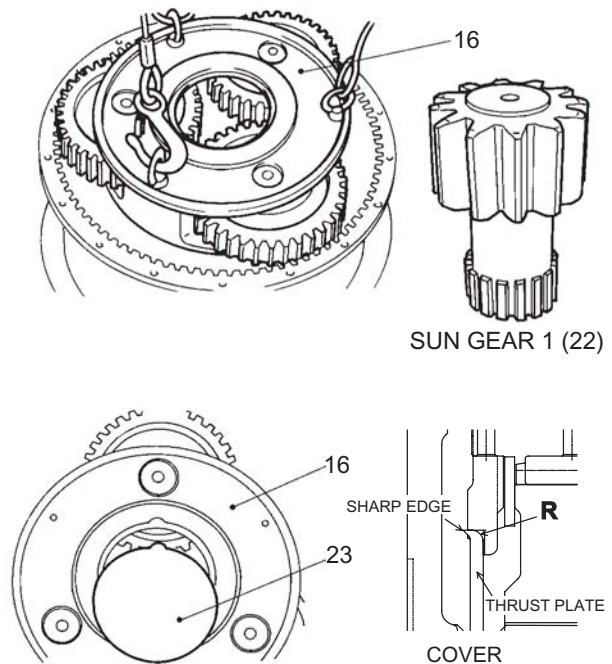

Fig. 34-119 Assembling carrier 1 assy
Face sharp edged side to cover (24). (See Fig. 34-119)